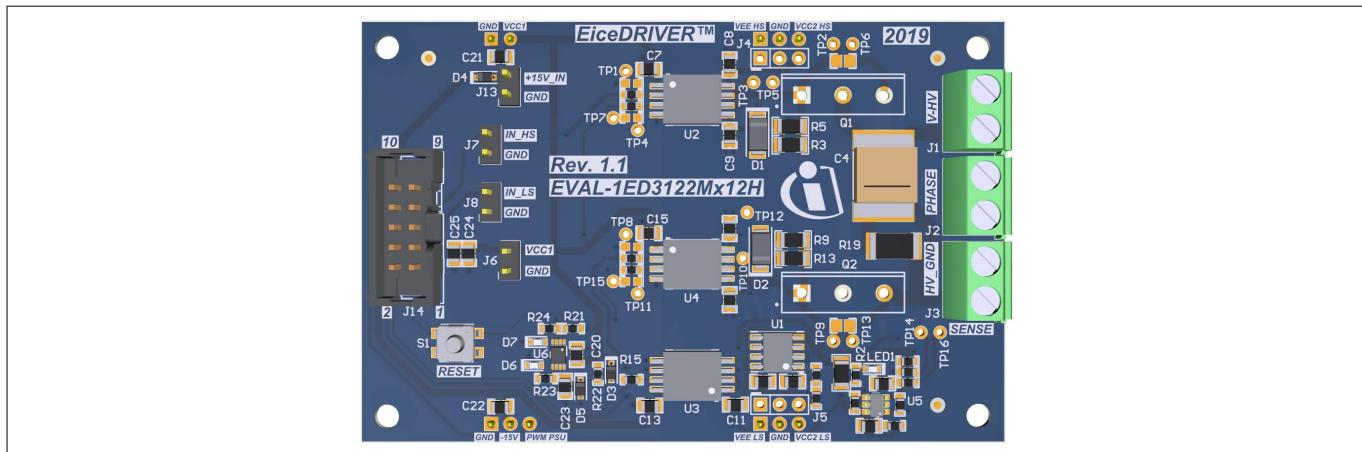

Figure 1 EVAL-1ED3122Mx12H top view
- Evaluation board in half-bridge configuration with two gate driver ICs to drive power switches such as IGBTs and SiC MOSFETs. The switch type can be freely chosen as seen in Figure 1